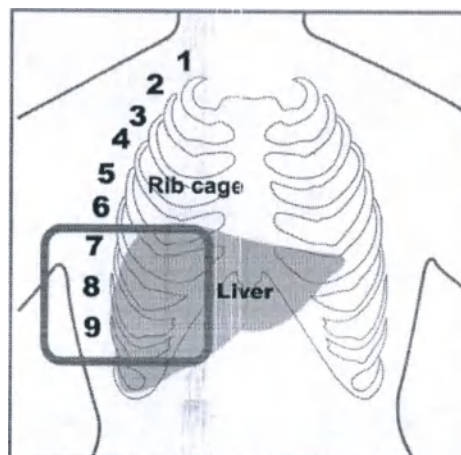

Fig. 7-2, 7-9th intercostal spaces
2. Touch the skin, starting from the xiphoid process, move down and to the right, you will find the 7th-9th intercostal spaces, as shown in Fig. 7-2.